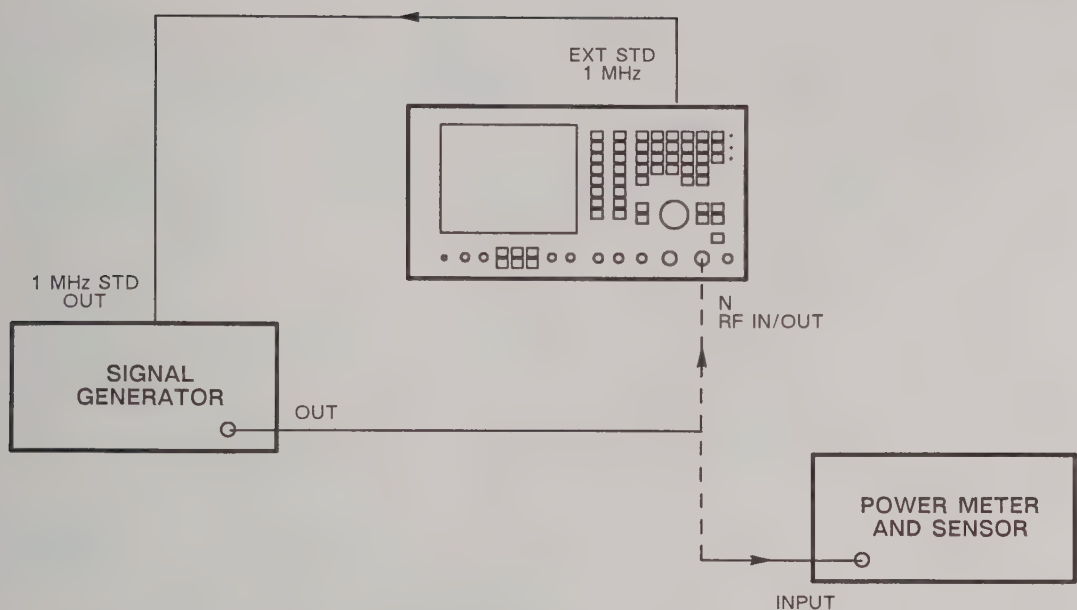

Fig. 6-10 Test equipment connections for RF frequency meter input sensitivity
- (1) Connect the signal generator 1 MHz standard output to the EXT STD 1 MHz socket. Connect the power meter through its sensor to the signal generator variable output. See Fig. 6-10.
- (2) On the 2955A, set TRANSMITTER TEST mode and the RF IN/OUT socket to N.
- (3) Set the signal generator carrier frequency to 100 MHz and modulation to off.
- (4) On the signal generator, adjust the RF level to give a reading of 5 mW on the power meter.
- (5) Transfer the signal generator variable output to the RF IN/OUT N socket.
- (6) Check that the RF frequency meter is locked and stable and that the reading is the same as the signal generator setting ± 10 Hz.
- (7) Transfer the signal generator variable output to the power meter.
- (8) Repeat (3) to (6) for other frequencies from 1.5 to 1000 MHz.